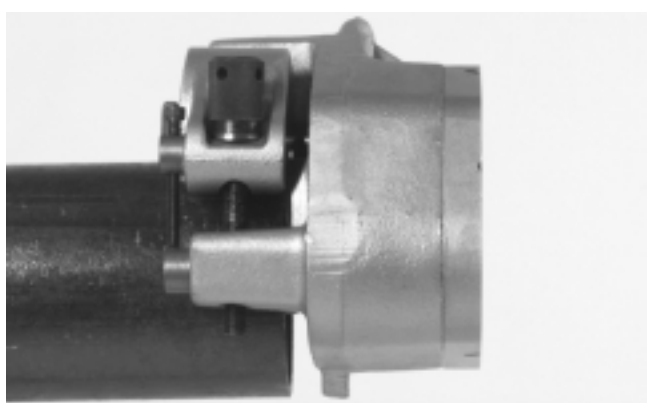

Figure 3 – Placing Groover on Pipe
2. Place 915 onto pipe/tube with feedscrew accessible (*Figure 3*).